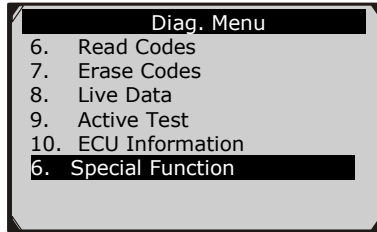

Figure 10.20
- 1) In the **Diagnostic Menu** (Figure 10.20), use the **UP/DOWN** button to select **Special Function** to do the ABS test. The scan tool displays as below.
- 1) In the **Diagnostic Menu** (Figure 10.20), use the **UP/DOWN** button to select **Active Test** to do the actuator test. The scan tool displays as below.